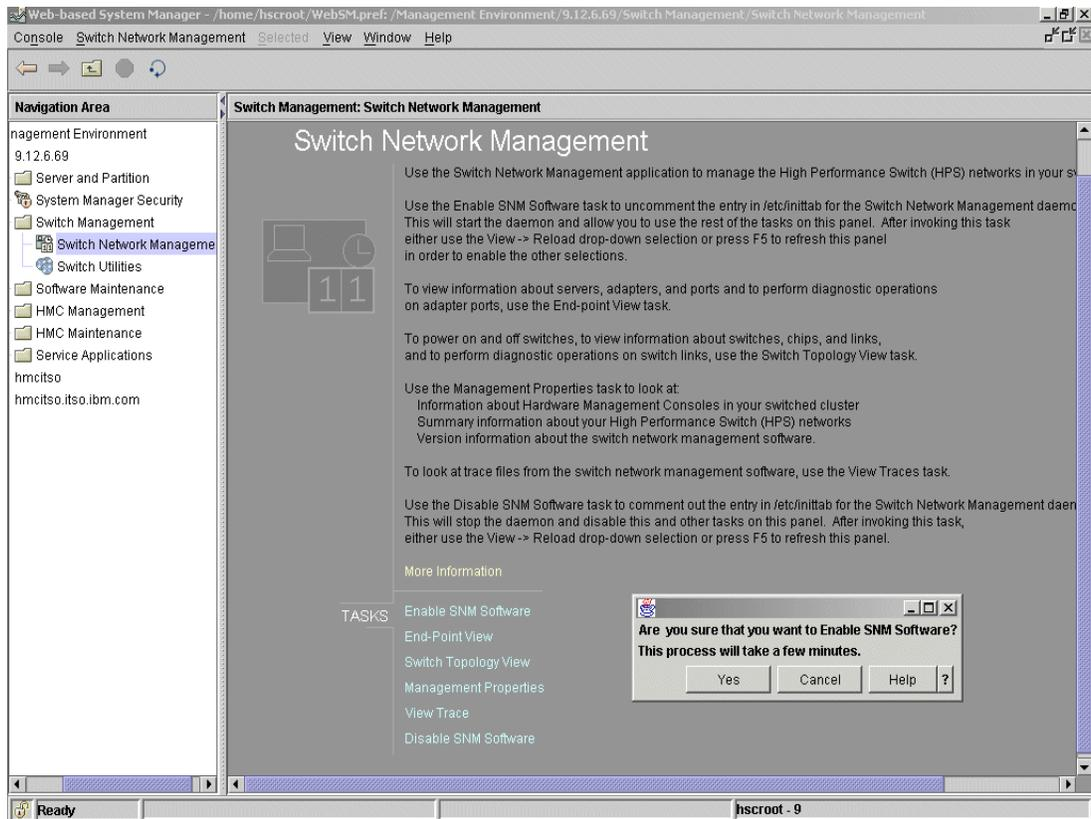

Figure 16 Enable the Switch Network Management software
- c. Select **Enable the SNM Software**. The window shown Figure 16 on page 27 opens. Click **Yes** in the confirmation window. This enables the FNM processes to start on the HMC. From this menu, you can also disable the FNM daemons by selecting **Disable the SNM Software**.